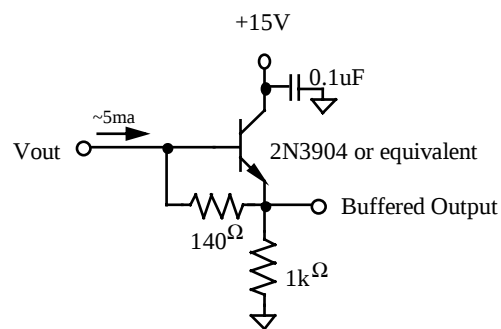

Figure 4 - Recommended Output Structure Load Diagram
Charge presented to the floating diffusion (FD) is converted into a voltage and current amplified in order to drive off-chip loads. The resulting voltage change seen at the output is linearly related to the amount of charge placed on FD. Once the signal has been sampled by the system electronics, the reset gate (ϕR) is clocked to remove the signal and FD is reset to the potential applied by Vrd. More signal at the floating diffusion reduces the voltage seen at the output pin. In order to activate the output structure, an off-chip load must be added to the Vout pin of the device - see Figure 4.